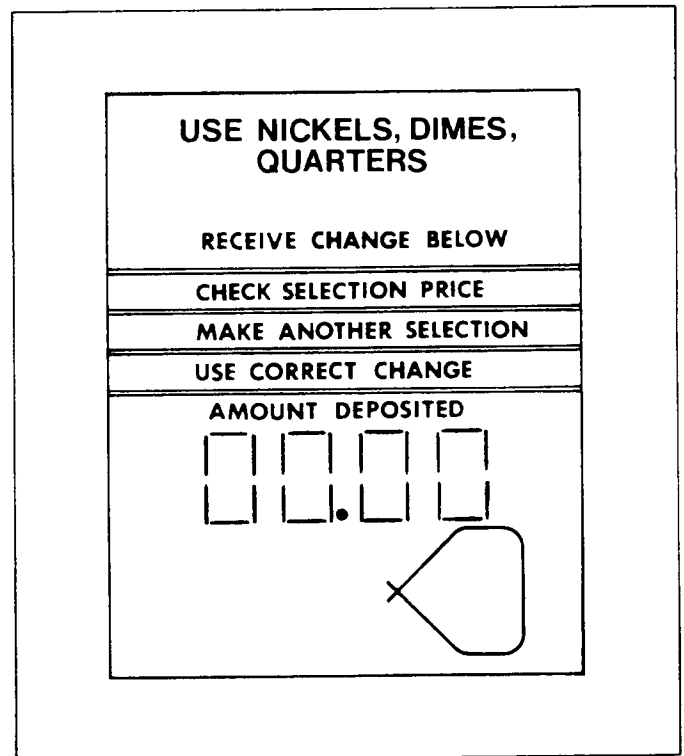

Figure 14.
- B. Press button 11 on the selection panel and the display will show "00.00" (Figure 14) along with three audible beeps will be heard. This is the price display and can be incremented up by pressing button 11 and down by pressing button 12. Increments are 5¢ and each increase will produce one audible beep.